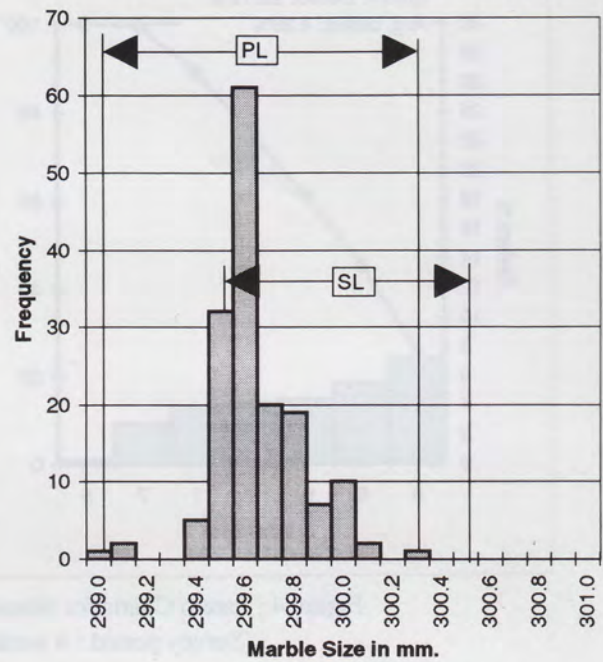

Figure 7 : Histogram II
- c) The analysis of the histograms drawn after every stage of improvement revealed that while the mode shifted at -0.3 of the mean, all the samples were within the specification limit with size variation narrowing down to 0.5 mm. With the shifting of the process limit of the machine within the specification limit, the process capability of the machine was improved. [Refer to Figures 7, 8, 9 : Histograms II, III and IV]